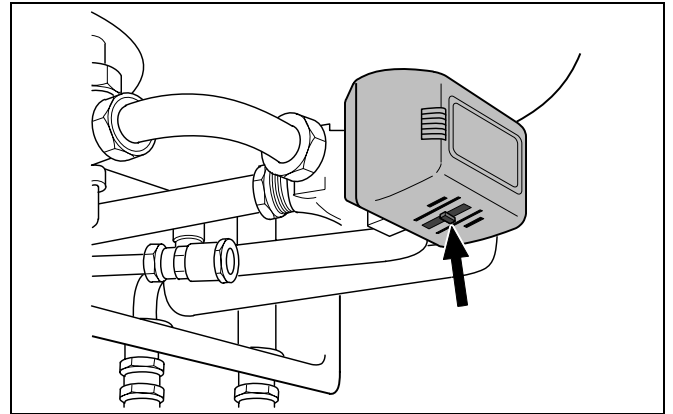

fig. 22 Mechanical switch on the three-way valve
- Move the mechanical switch on the three-way valve to centre position (fig. 22) (applicable for 800-24T25 and 800-29T25 only) and systems with an external storage-type water heater.